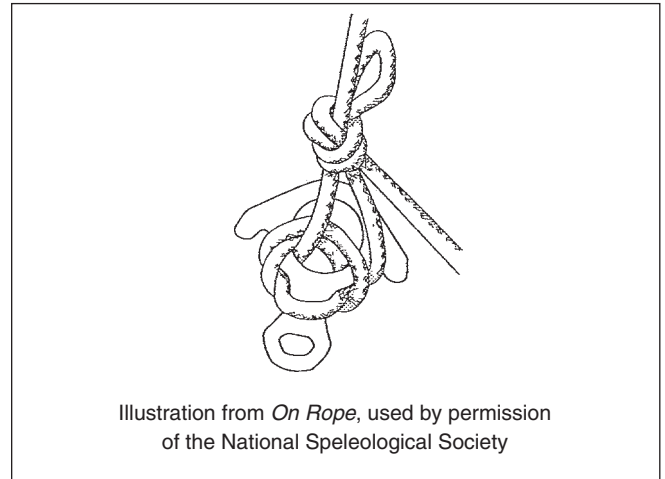

Figure 6h—Locking off the figure-8 descender—lockoff secured.
- E. If you will be moving around with your hands off the rope while you are tied off in the tree, further secure the lockoff by tying an overhand knot or two half-hitches around the standing end of the rope with a bight from the running part of the rope (figure 6h).